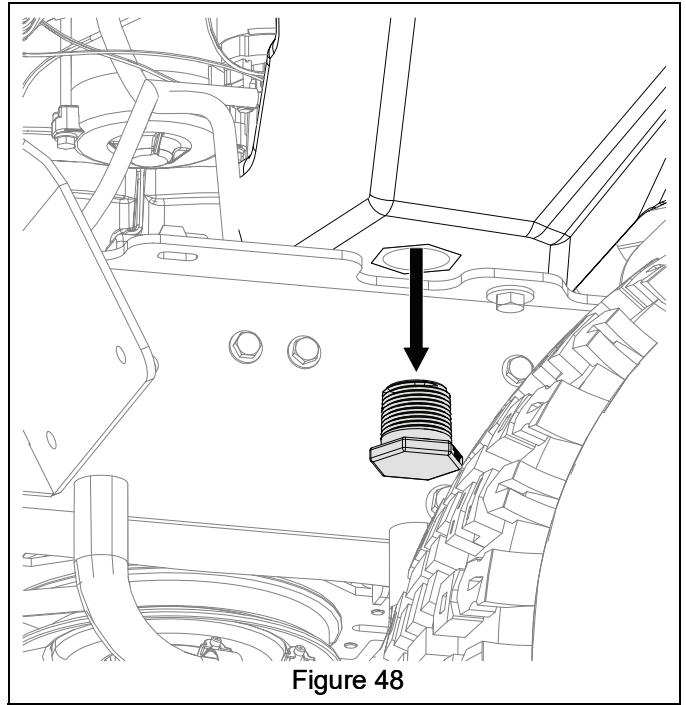

Figure 48
72. Remove and discard temporary plug from bottom right rear of front brine tank. See Figure 48.